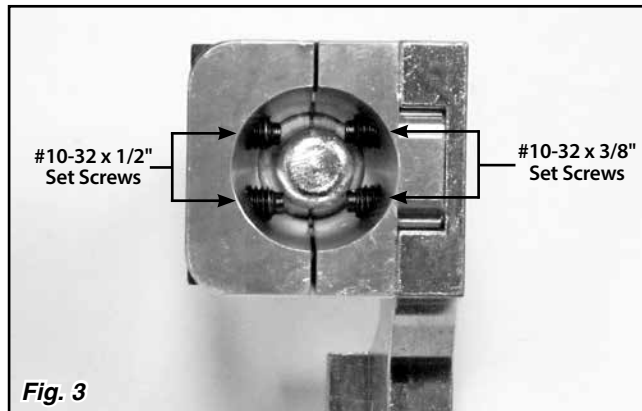
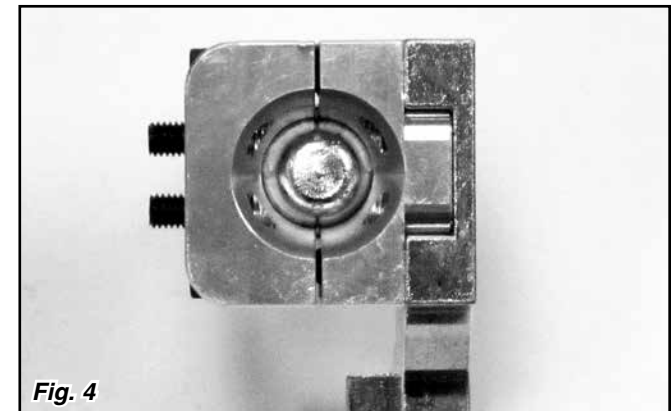

Fig. 3
Fig. 4
**Step 1:** Turn the AxiShift Bolt-on Shift Lever Adapter upside down. Use a 3/32" Allen wrench to back out all four of the #10-32 set screws far enough that they are no longer protruding into the center cavity at all. **Fig. 3 & Fig. 4**